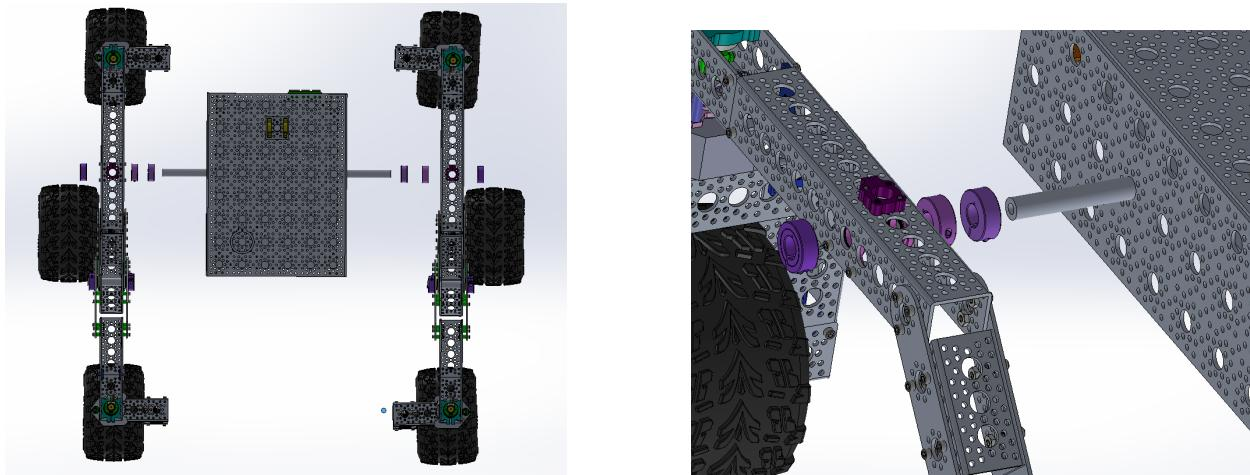

Figure 7: Mounting Body to Rocker-Bogie
1. Mount the main body of the rover to the two separate rocker-bogie legs using 15 inch aluminum rod **S16A** and collar clamps **S22** as shown in Figure 7. Make sure to maintain the order of the collar clamps shown in Figure 7 to fully lock all assemblies along the rod. The rod will go through the pillow blocks on each rocker-bogie leg, and it should pass through the 4th from the back and 2nd up hole on the body as shown in Figure 7.